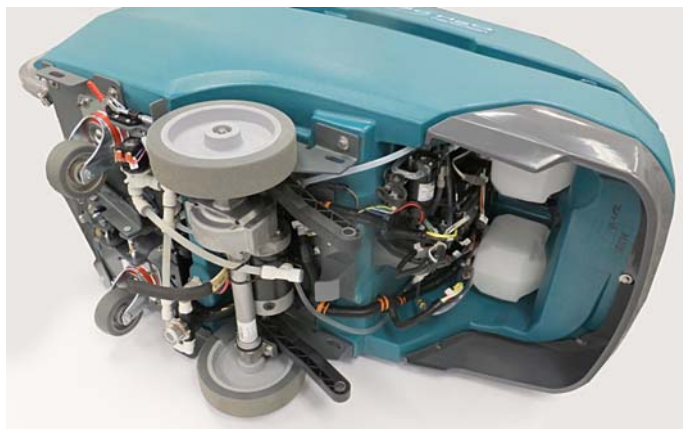

Fig. 14
2. On a non-marring surface, with assistance, carefully lay the machine on its left side to access bottom side of machine (Figure 14).